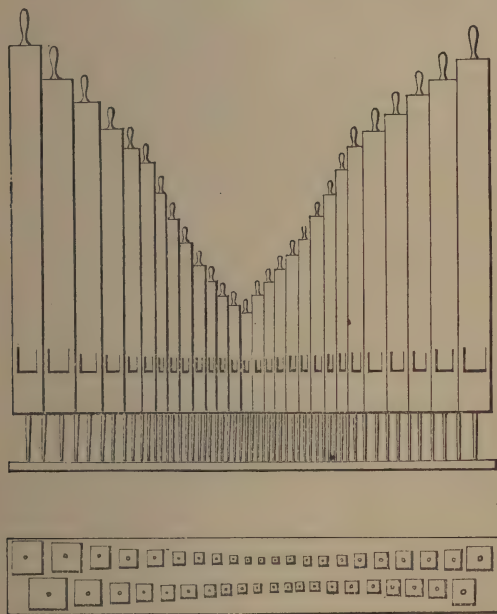

Fig. 5.
4. On the opposite page several different plantations of the Stopped Diapason are shown both in elevation and in plan. In Fig. 5 the pipes, planted in a double row throughout, are placed alternately to the right and to the left, meeting in the middle at the smallest pipe. The exact reverse of this plantation, namely, placing the largest pipes in the middle, and sloping down to the smallest pipes at each end, can be easily imagined, and it is unnecessary to figure it. It is clear that in both these
are planted back to back, as in Figs. 5 and 6. Hence we must decide, before we begin to work, not only how the pipes are to stand on the board, but how they are to get their wind and be deprived of it by the action of a slider of the usual width. Perhaps we shall resolve to run two narrow sliders under the foot-holes of the whole stop, one for each of the two rows, controlling both sliders by a single knob or handle. By this method every pipe will stand on its wind, as the workmen say,